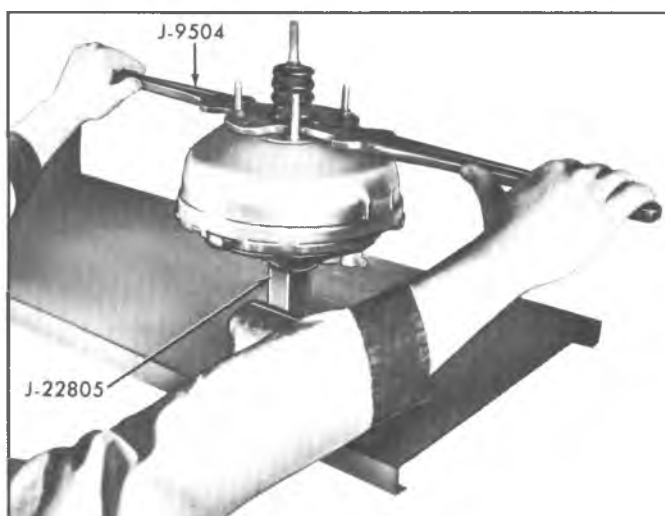

Fig. 2B--Unlocking Front and Rear Housings
2. Attach base of Holding Fixture J-22805 to front housing with nuts and washers and draw down tight to eliminate damage to studs. Clamp base in a bench vise with the power section up (fig. 2B).
- a. **Straight Mounting Bracket and Chevelle (Fig. 2B)** - Place Spanner Wrench J-9504 over studs on rear housing and attach with nuts and washers. Draw nuts down tight to eliminate bending or damaging of studs.